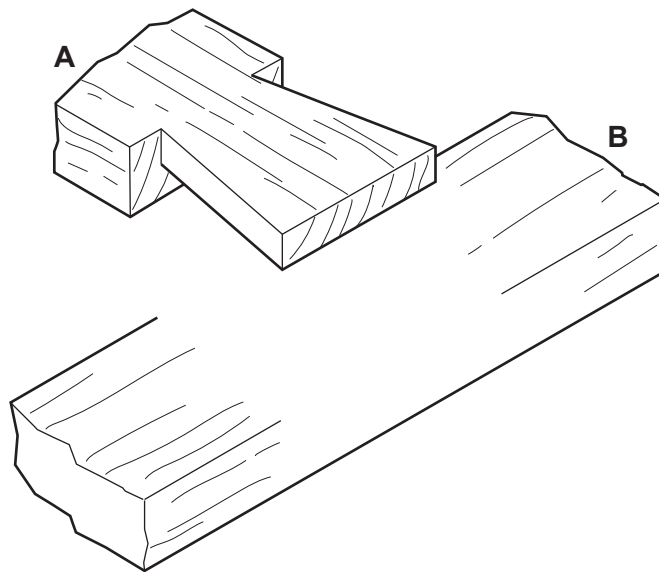

Fig. 4.1
- 4 Fig. 4.1 shows two parts, **A** and **B**, of an incomplete housing joint.
Draw on part **B** in Fig. 4.1 to show the other part of the housing joint.